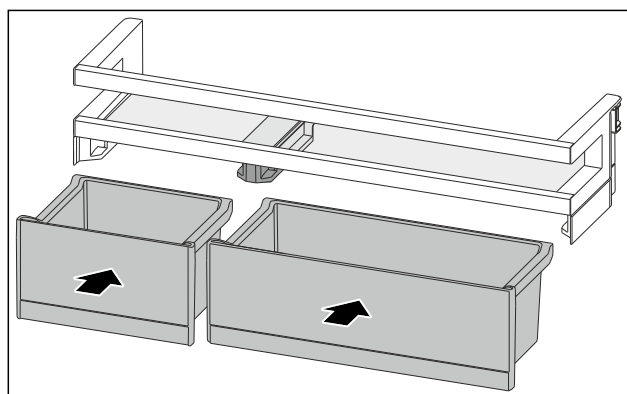

Fig. 98
- ▶ Insert the VarioBoxes in reverse order. (see Fig. 98)